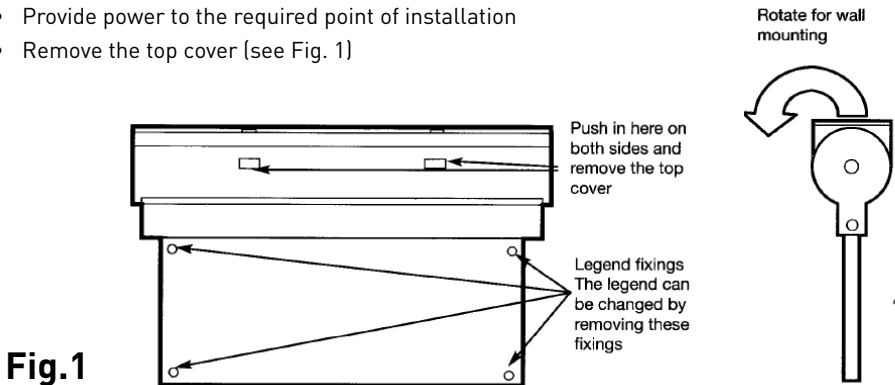

Fig.1
- Remove the top cover (see Fig. 1)